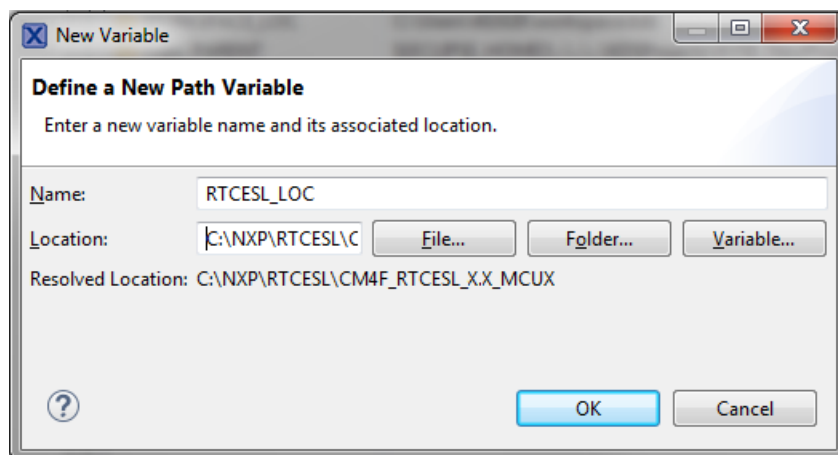

Figure 1-2. New variable
4. In the dialog that appears (see Figure 1-2), type this variable name into the Name box: RTCESL_LOC.